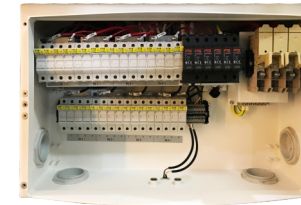

Figure 3.11 Sixteen (16) channels in 2 sections
Figure 3.11 Shows sixteen (16) channels for connecting DC strings. Each channel is protected by a fuse. The included fuses are rated at 15A. Replace fuses with like size and type. Do not exceed 20A fuse rating.